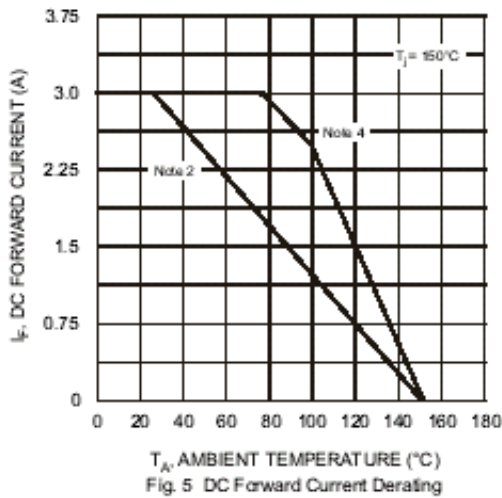

Fig. 5 DC Forward Current Derating
- Average Rectified Output Current ( $I_O$ ): 3 Amps for Single phase, half wave, 60Hz, resistive or inductive load (also see Figure 5). For capacitive load, derate current by 20%.